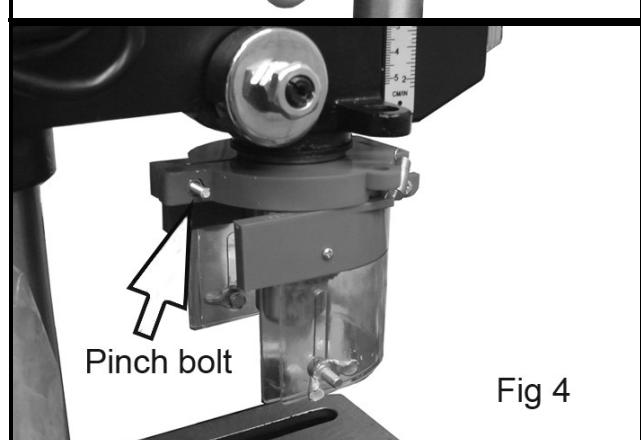

Fig 4
1. Slide the chuck guard assembly over the drive spindle and tighten the pinch bolt at the rear of the assembly shown in Fig 4.